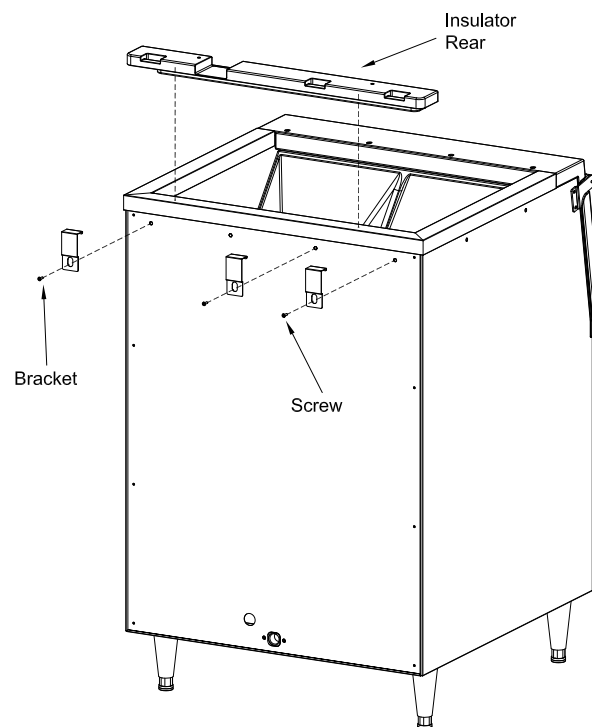

Fig 2
Install rear kit referring to Fig 2 and below instructions.
- Take out the Bin Switch (B) from the machine as shown in Fig 2.
[Fig 2]
- Disassemble the Insulation Evaporator (C) while lifting the top cover (D) as shown in Fig 2.